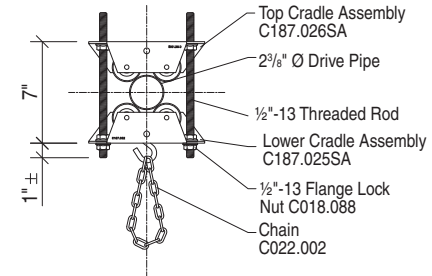
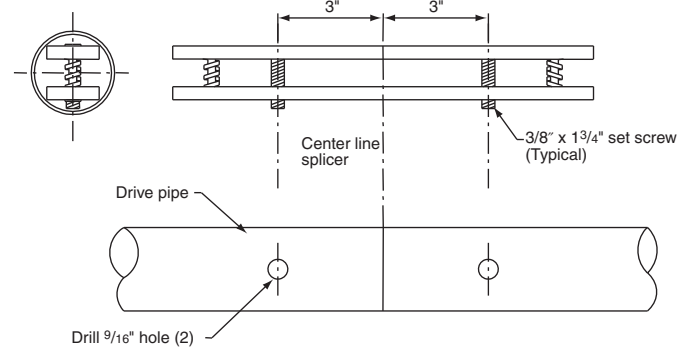

Figure 2
Figure 3
- ⑤ Install double drive pipe support assemblies to Z-Bracket with threaded rod at positions shown on shop drawing (typically adjacent to belts only) (see Fig. 2).
- ⑥ Using the project drawings, identify the 2³/₈" drive pipe section that attaches to the winch (normally the shortest section). Attach to winch output shafts, drilling and installing hardware as shown on drawings.
- ⑦ Raise the other drive pipe sections as indicated on project drawings.
- ⑧ Attach pipes together with drive pipe splicers to obtain one long continuous run of drive (see Fig. 3).
- ⑨ Operate the winch to determine that the drive pipe is rolling level. Make adjustments accordingly.
- ⑩ Position lift cables onto drive pipe in preparation of lifting curtain (lift cable not supplied).